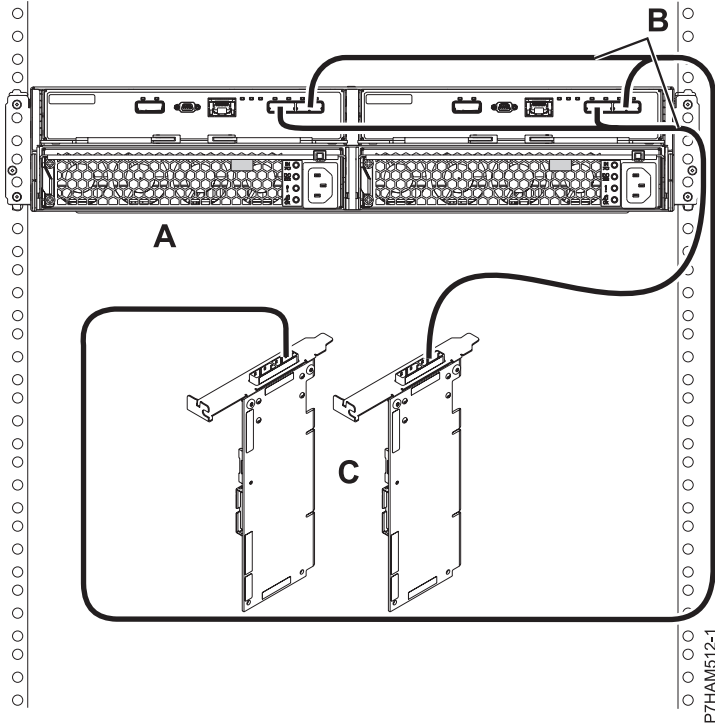

Figure 38. Mode 1 connection of one 5887 disk drive enclosure by using YO cables to a SAS adapter pair
15. Perform the mode 1 connection of one enclosure (A) by using YO cables (B) to a SAS adapter pair (C). See Figure 38 on page 38.